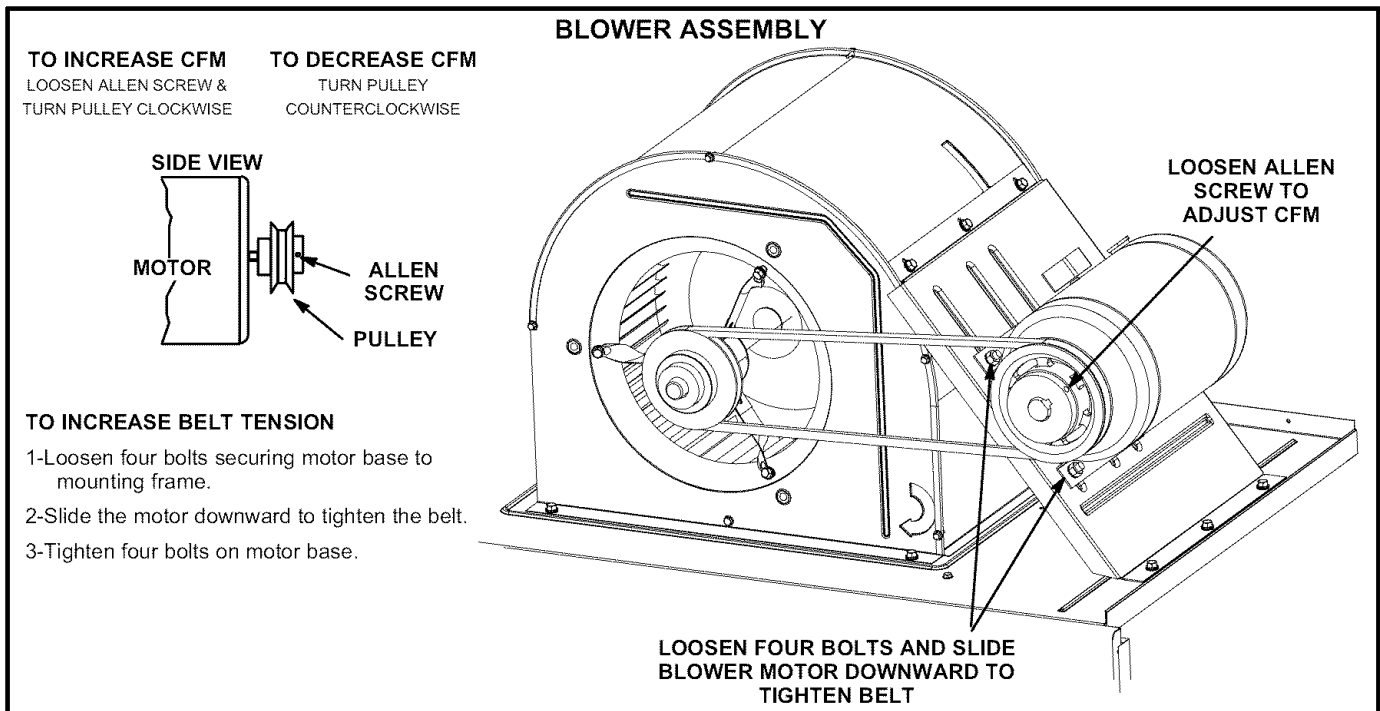

FIGURE 16
- 5- The blower RPM can be adjusted at the motor pulley. Loosen Allen screw and turn adjustable pulley clockwise to increase CFM. Turn counterclockwise to decrease CFM. See figure 16. Do not exceed minimum and maximum number of pulley turns as shown in table 1.
- 1- Loosen four bolts securing motor base to mounting frame. See figure 16.